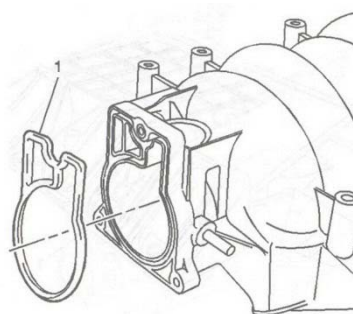

Fig.16
- On FAST™ 92mm Intake, install new, provided throttle body seal (FAST™ Part #54041) to new manifold (Fig.16).